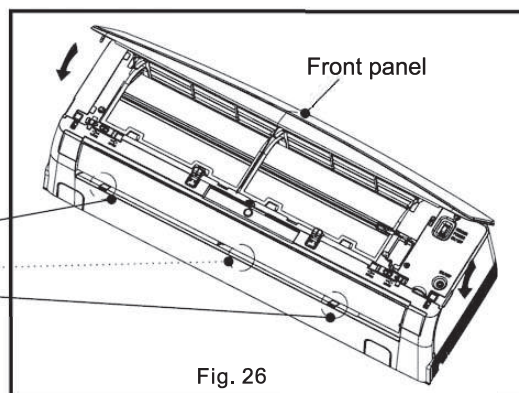

Fig. 26
12) Close the front panel as shown in Fig. 26.